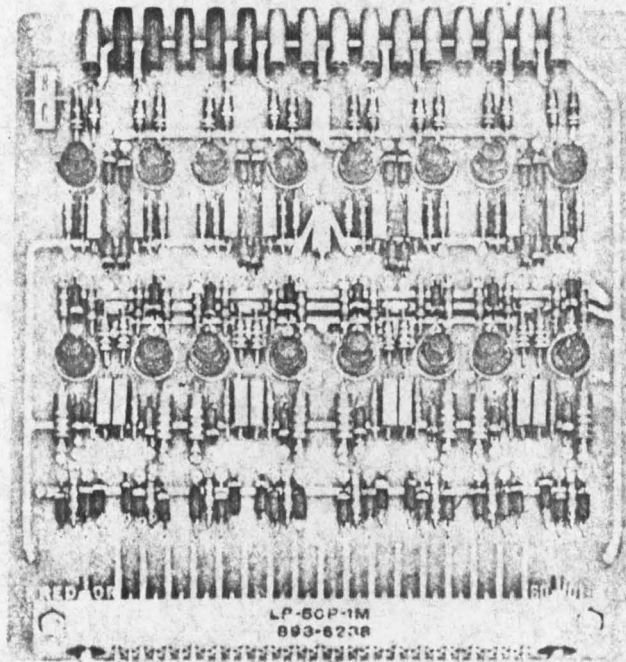
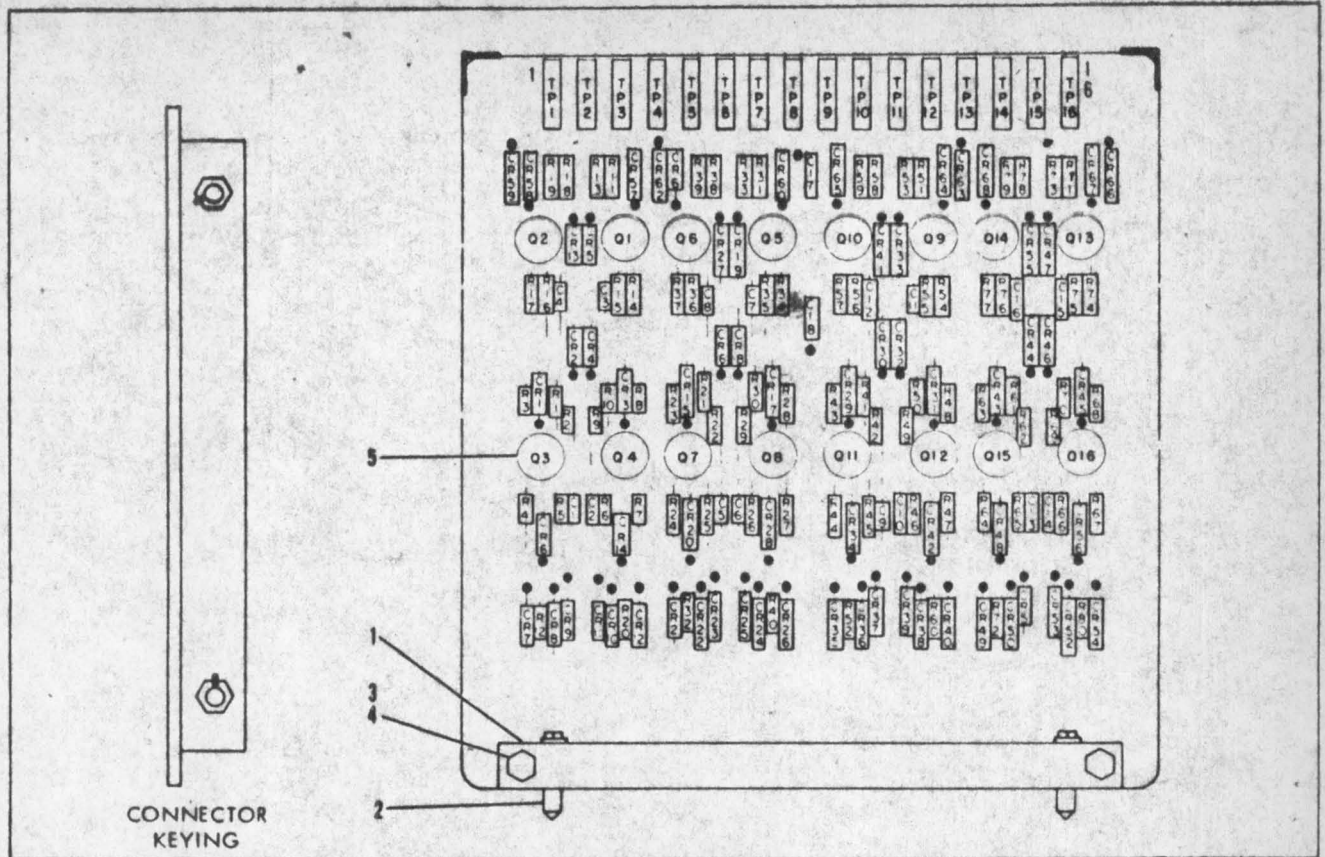

Figure 1. DC Flip-Flop Model 600101
Figure 4. DC Flip-Flop Model 600101, Parts Location
2. Description - The Model 600101 DC Flip-Flop (see Figure 1) is a printed circuit board module consisting of four independent DC flip-flop circuits. The circuit board is a standard 50-pin module card with components mounted on one side. The board assembly measures 5 x 5.4 inches (see Figure 4) and requires one standard card space. Test points are provided on the top edge of the card for waveform observation and trouble shooting during operation.
Standard circuit board maintenance practices apply. Test points are provided on the top edge of the card for waveform observation and trouble shooting during operation. Figure 4 is the Model 600101 DC Flip-Flop, parts location. Replacement parts shall be those specified in the parts list.